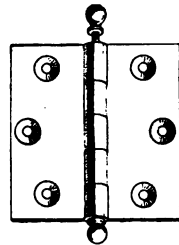

FIG. 131. Hinge.
**232. Hinges.** There are some hinges which should be of interest to women. These are the ones for doors which swing only one way, and for those which swing both out and in (Fig. 131).